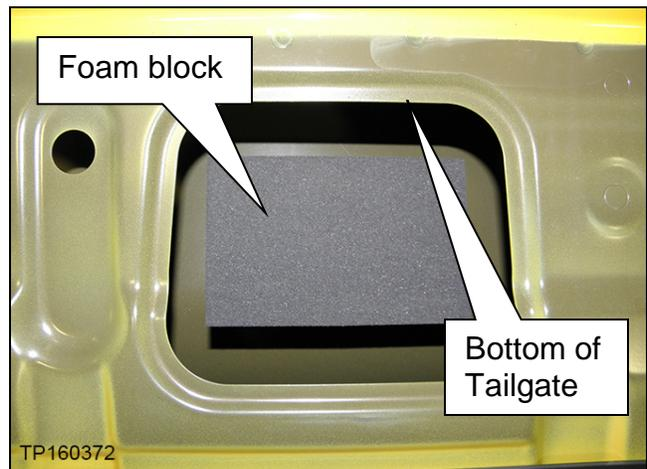

Figure 3
- Install the driver's side foam block approximately 23.73 mm ( $\pm 10$ ) from the bottom edge of the tailgate access hole (Figure 3).